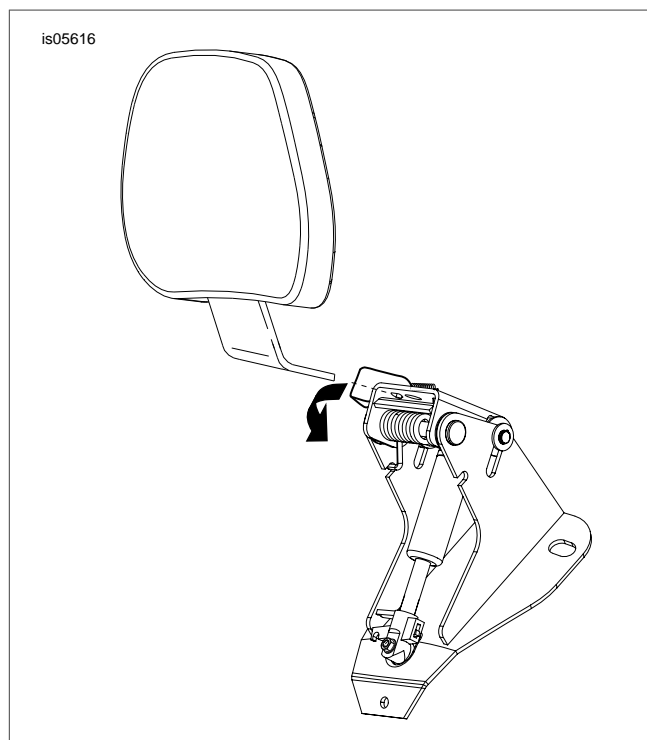

Figure 11. Installing Backrest
1. See Figure 11. Press on lever on backrest bracket as shown. Insert backrest and press gently until it snaps into place.